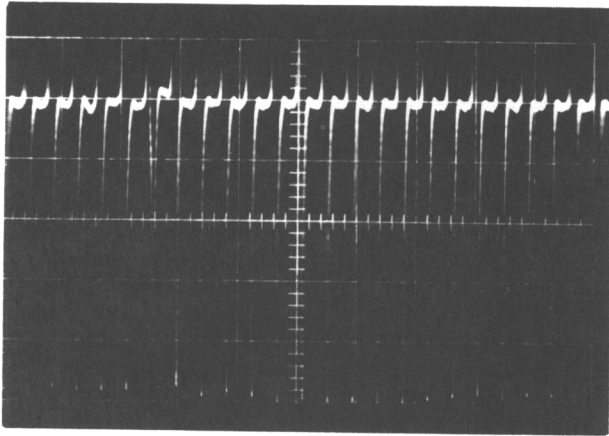

Figure 3-22. 1K12F (2 ms/div, 1 v/div - adjusted)
- c) Adjust the voltage calibration knob so that the amplitude of the observed negative spike (base-to-peak) just covers 5 scope divisions. Record the base line (Figure 3-22).